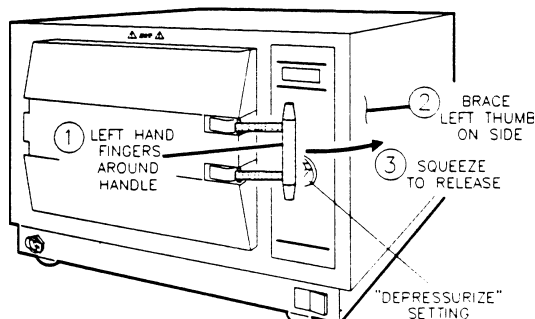

Figure 15: To Release the Door
- Squeeze so the handle pulls directly to the right (see Figure 15). This will release the door latch. The door will now open.